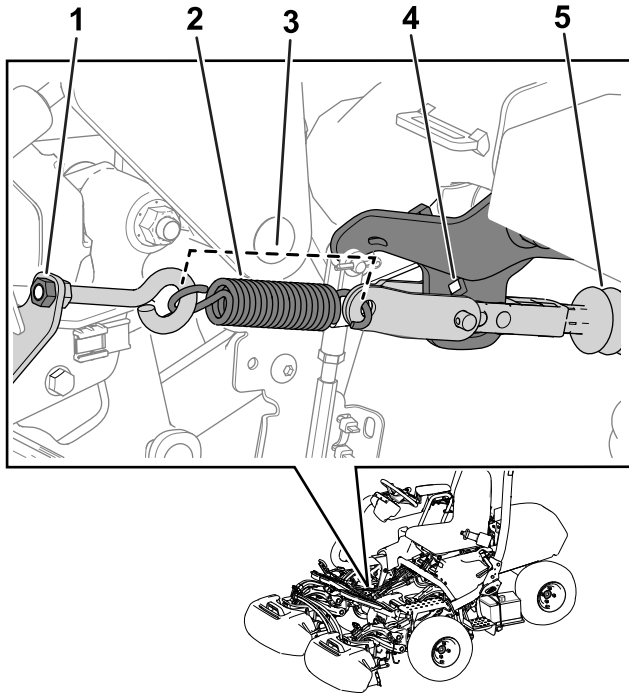

Figure 41
Note: Refer to Figure 41 for this procedure.
3. Prepare for operation by tightening the eyebolt nut so that the spring length is 11.4 cm (4.5 inches) when installed (Figure 41).